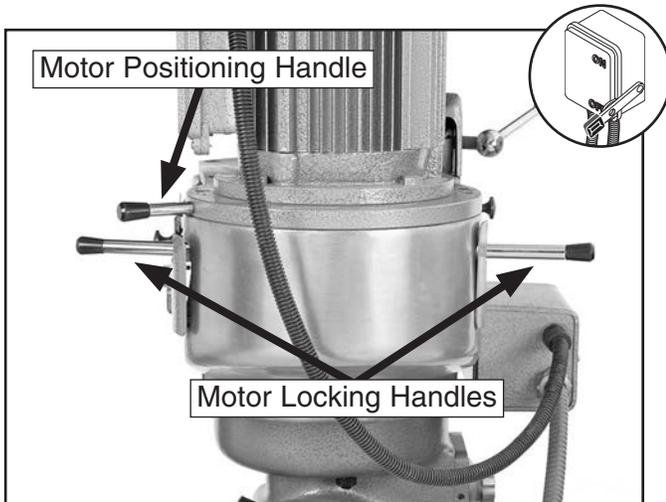

Figure 31. Model G9901/G9902 motor positioning controls (shown from rear of motor).
- Loosen both motor locking handles shown in **Figure 31**.
- Use the motor positioning handle (**Figure 31**) to pull the motor forward and release the V-belt tension.